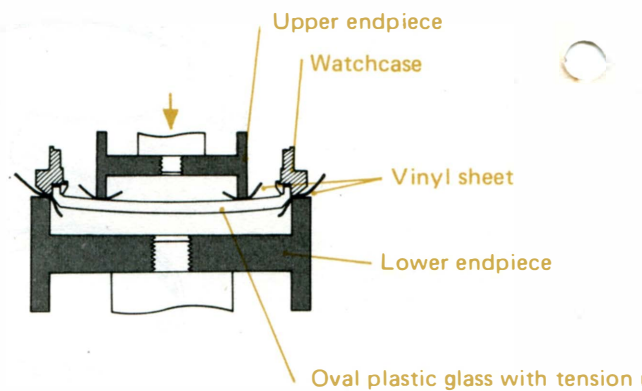

Fig. 3
- a. Select a endpiece which is slightly larger than the longer diameter of the oval glass with tension ring as the lower endpiece and a endpiece which is slightly smaller than the shorter diameter of the oval glass with tension ring as the upper endpiece and set the upper endpiece, the watchcase and the lower endpiece, the watchcase and the lower endpiece as shown in Fig. 3.